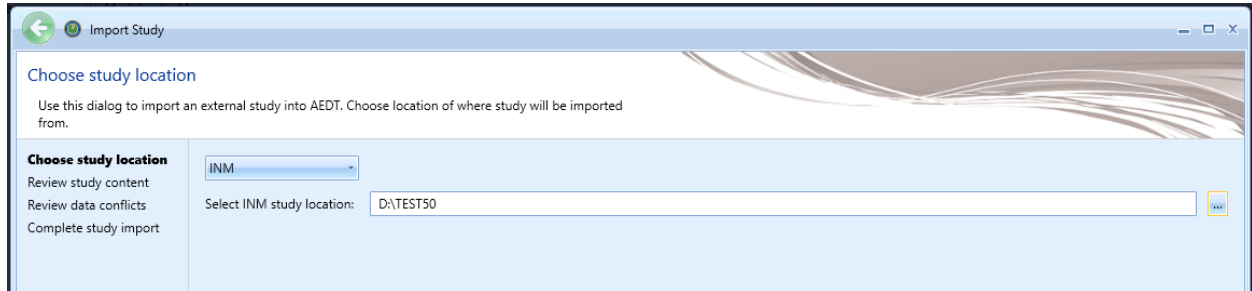

Figure 60. Choose study location
2. Click the *Study* tab and click *Import* to display the *Import Study* dialog (Figure 60).